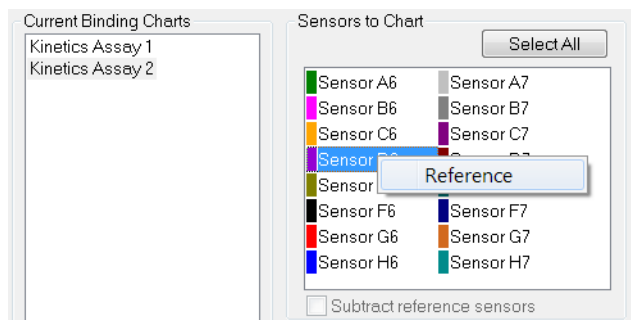

Figure 10-92: Designating a Reference Biosensor in the Runtime Binding Chart
1. In the **Sensors to Chart** list or the **Sensor Tray**, right-click a biosensor and select **Reference** (see Figure 10-92).